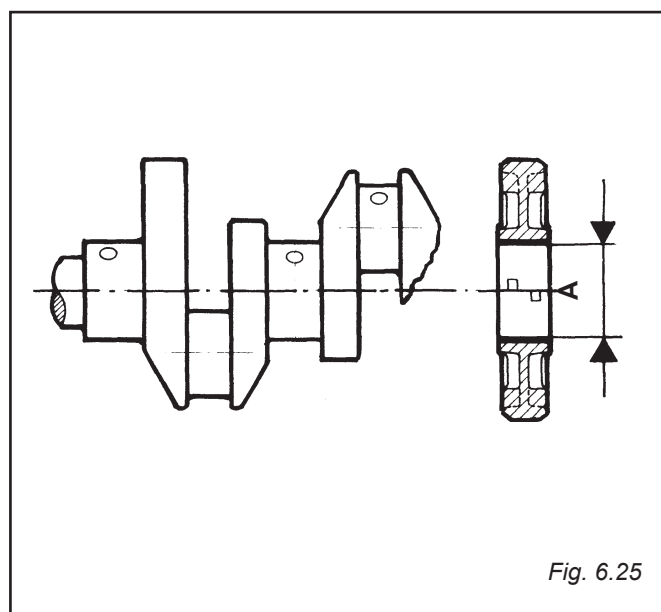

Fig. 6.25
6.16 CENTRAL MAIN BEARING (FIG. 6.25)